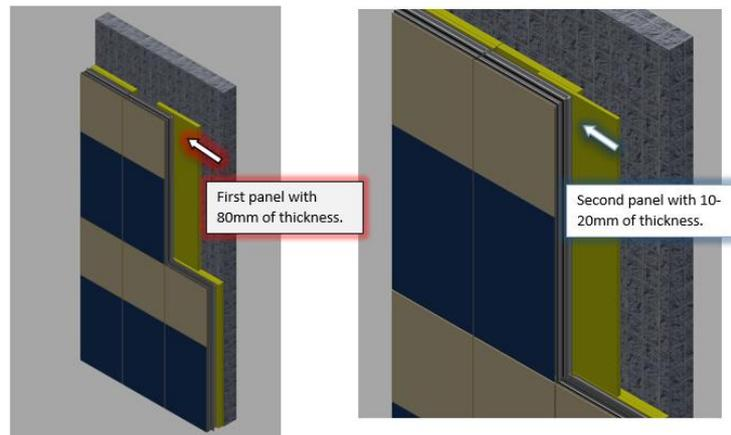

Figure 7 Detail of mineral wool panels insertion.
- 3.3. Insert the panel of mineral wool in the cavity between the wall and the unit on the right side, as showed in figure 7.